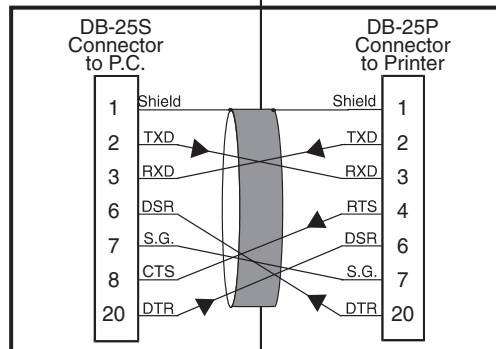

Figure 28. 25-Pin to 25-Pin Cable
- **25-pin to 25-pin cable** - (NULL Modem Cable) must have a 25-pin “D” Type (DB25S) connector on the end that is plugged into the serial port at the computer and a 25-pin “D” Type (DB25P) connector on the other end that is plugged into the connector at the rear of the printer. Figure 28 shows the required cable connections.